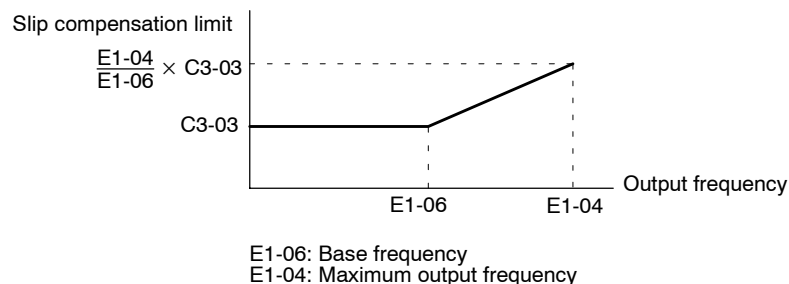

Fig 7.25 Slip Compensation Limit
- The limit is as shown in *Figure 7.25* in the constant torque and constant output areas.